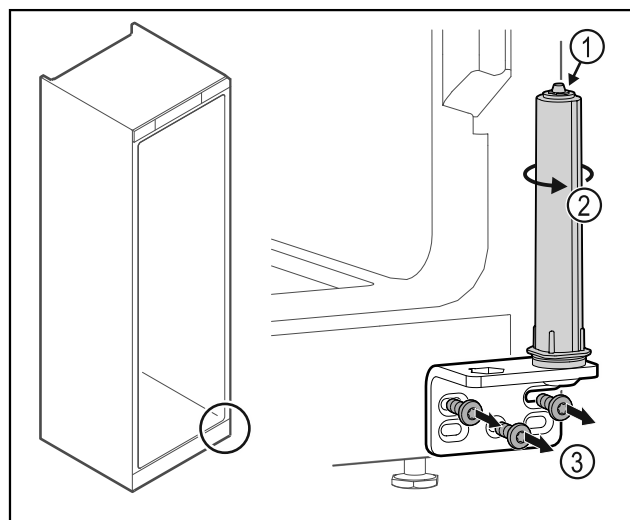

Fig. 32
- Do not disassemble the door closing system Fig. 32 (1).
- ▶ Turn the closing system Fig. 32 (2) until it clicks.
- ▶ Unscrew the hinge Fig. 32 (3).